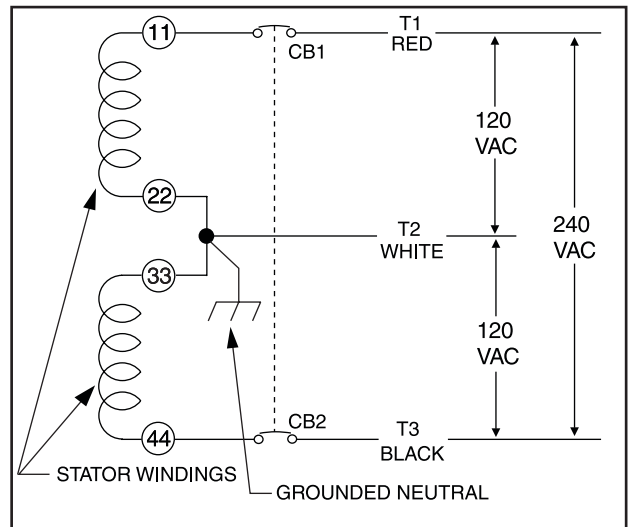

Figure 1-9 - Connection for 120/240 Volts
2. 120/240 VAC loads — one load with a maximum total wattage requirement equal to the generator's rated power output, and 240V across the generator output terminals; or two separate loads, each with a maximum total wattage requirement equal to half of the generator's rated power output (in watts), and 120V across the generator output terminals. Figure 1.9 on page 7, shows the generator lead wire connections for 120/240 VAC loads.